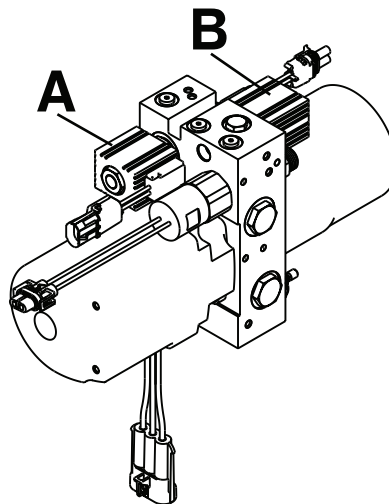

Figure 11 – Hydraulic A valve or B valve replacement
5. Using a 3/4" combination wrench, remove the nut that secures the solenoid to the A valve (A) or B valve (B) (Figure 11). Save the nut.
7. Using a 7/8" combination wrench, remove the A valve or B valve from the hydraulic subassembly (Figure 11).